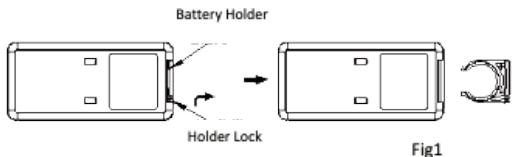

Fig1
1. At the back of remote control, use a finger to pull up the holder lock, at the same time pull out the battery holder. (Fig1)